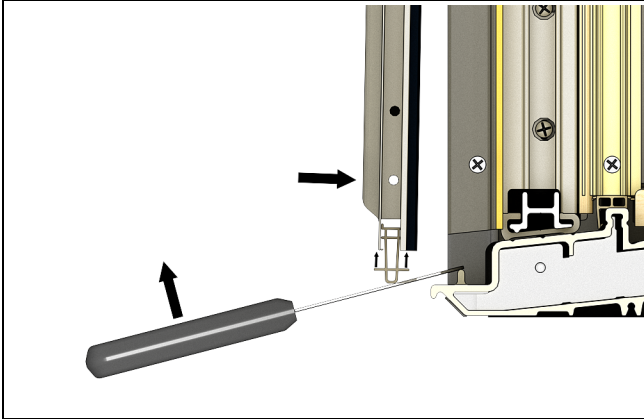

Figure 13
1. To remove the screen panel, start at the bottom corner and pry the screen panel guide up with a putty knife. Pull the guide off the screen sill track and work your way to the other end. See Figure 13.